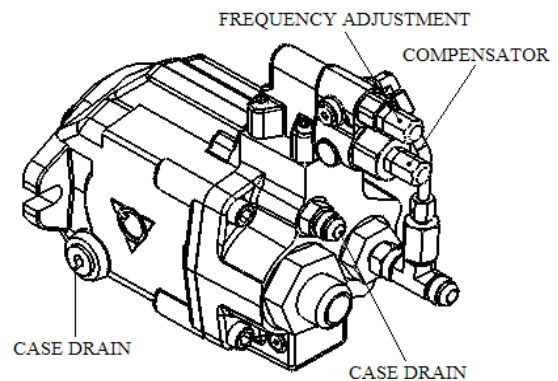

Figure 21: Delta Q 45CC Pump
3. Fill the pump case (Fig. 21) with filtered oil.
5. Remove the frequency adjustment cap and loosen the jam nut from the pump. (Fig. 21)